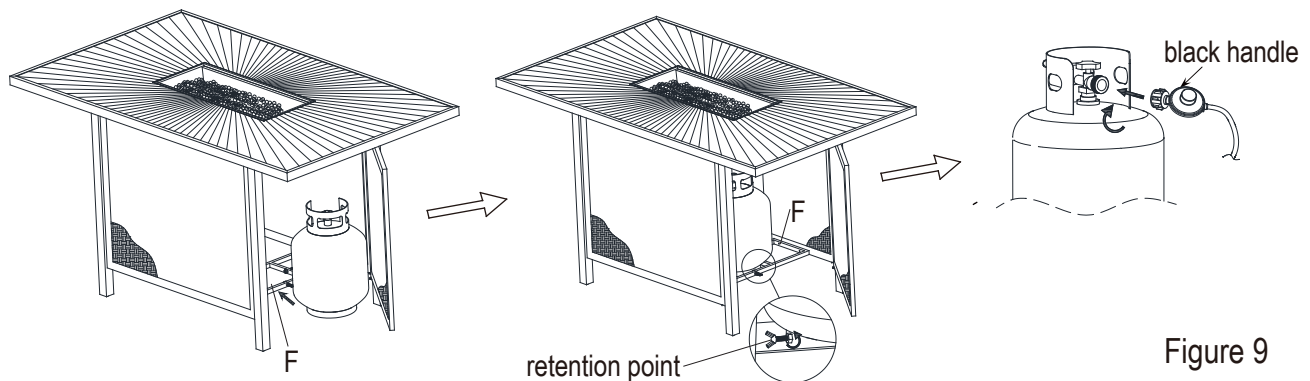

Figure 9
11. Open the door, place the gas cylinder into gas cylinder support (F), connect the regulator, screw the black handle clockwise to tighten, turn the black handle counterclockwise to remove. Secure the gas cylinder by tightening clockwise the retention point found on gas cylinder support (F), so that the gas cylinder cannot move from side to side or fall down. The knob on the control panel is turned all the way to the "OFF" position when the fire pit is NOT in use (see Figure 9).